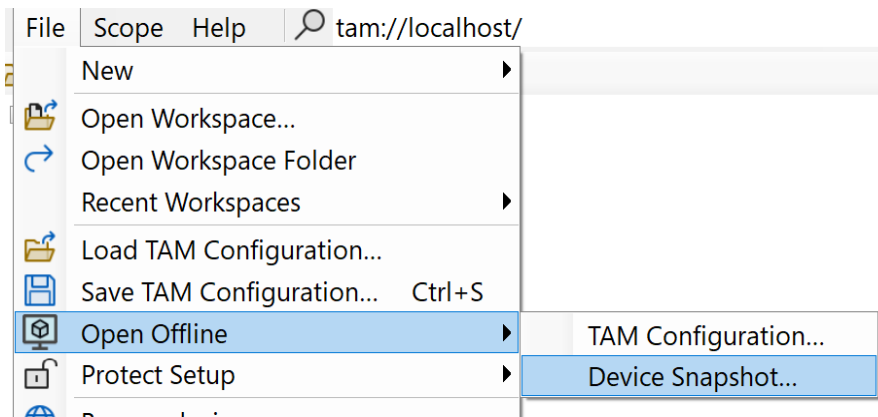

Figure 27: Open a TAM Snapshot via the context menu
2. Load a *.TAMsnap* file via the context menu shown in Figure 27.